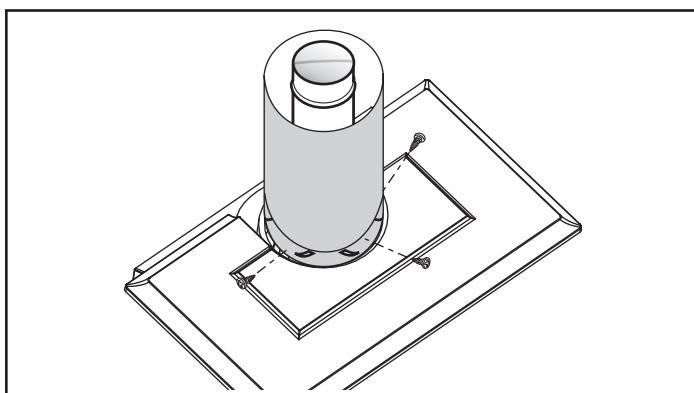

Figure 19 - Fasten outer pipe with #12 x 1/2" sheet metal screw.
- 5. Install the Outer Adapter Pipe:** Apply a 1/4" bead of cement around the inside wall of the pipe, about 1" from the end. Insert the pipe over the stove flue collar, keeping the vertical seam oriented to the back of the stove. Also, be sure to align holes on the pipe with the holes on the flue collar of the firebox. Fasten the pipe to the holes in the flue collar with the #12 x 1/2" sheet metal screws provided. (Figure 19)